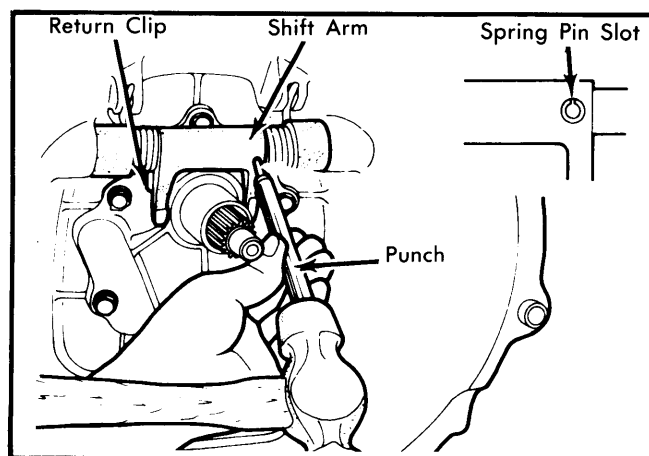

Fig. 2 Removing and Installing Shift Arm Spring Pins
Removal — With transmission removed, remove return clip on transmission side, then slide off release bearing carrier and release bearing. Using a $\frac{3}{16}$ " punch, remove shift arm spring pin and control lever assembly, then remove the shift arm and return springs. See Fig. 2.
2) Apply grease to inside of bushing and oil seal lips. Apply engine oil to felt packings. Align shift arm pin holes and control shaft pin holes. Drive spring pins into position. See Fig. 2.